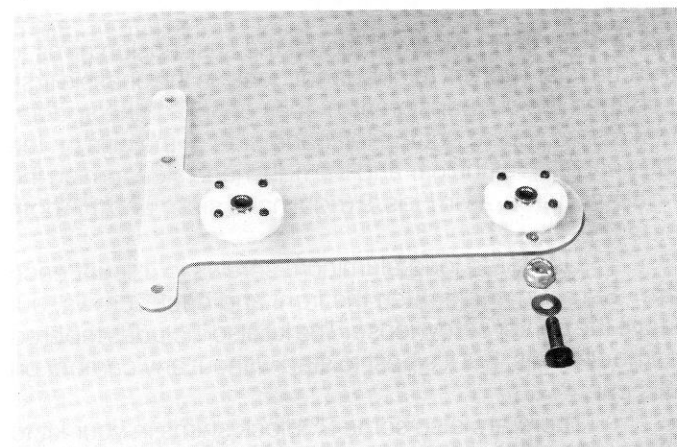

**Fig. 14**
□ **Figs. 14, 15a & 15b**-- Mount the socket assembly onto the #8325 T-bar with the four screws shown in Fig. 14. Do not overtighten. If this ball is tight in the plastic, it's okay; it doesn't swivel. (Fig. 15a shows the top view; Fig. 15b shows bottom view.)